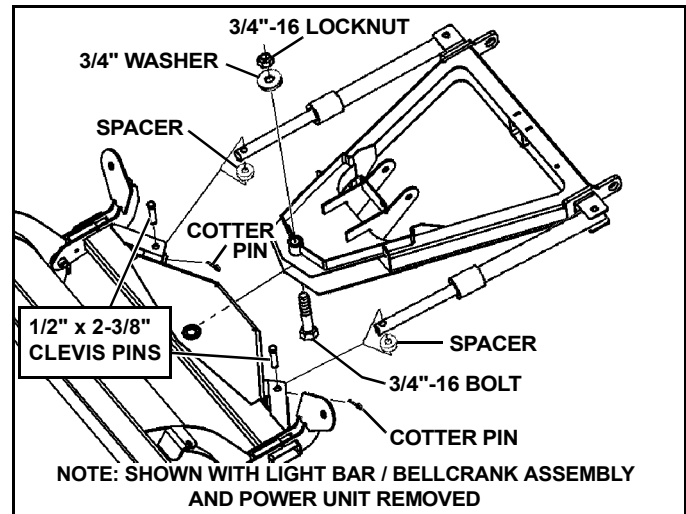
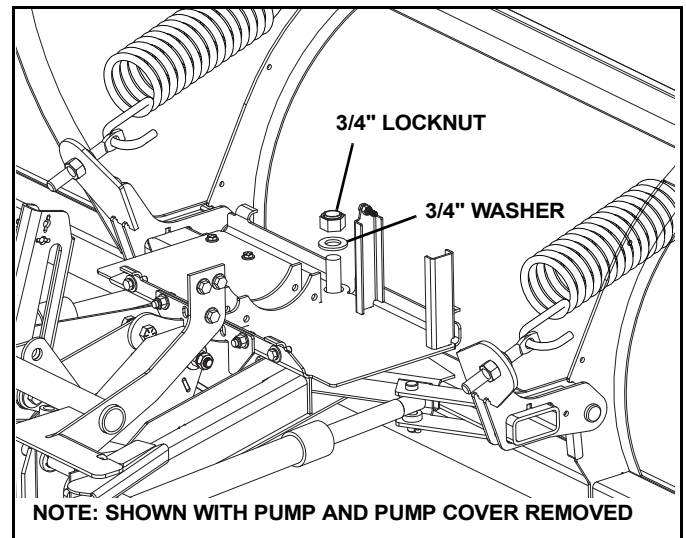

Figure 1-6
Figure 1-7
4. Remove 3/4" locknut, washer and 3/4" bolt. Slide swing frame into A-frame. Replace 3/4" bolt, washer and locknut. Tighten hardware. See Figure 1-6 and Figure 1-7.
5. Remove cotter pins, clevis pins and spacers from rod end of cylinders. Reconnect the power and control. Extend cylinders using plow control to align holes in cylinder rod and swing frame. Replace spacers, clevis pins and cotter pins, making sure that spacer is on bottom of rod. (See Figure 1-6).